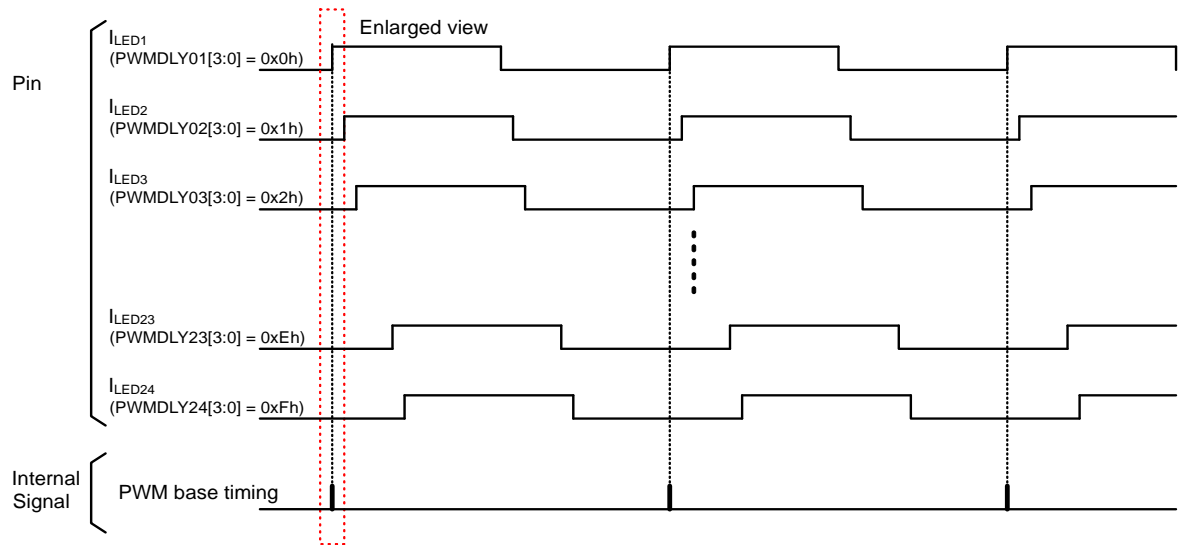

Figure 45. PWM Delay Setting
- PWMDLYn[3:0]: refer to Figure 45.